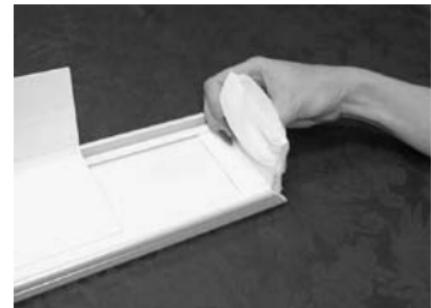

Figure C6
9. Bend the folded and creased valance insert 90 degrees until it rests against the plastic valance return connector. (See Figure C6)